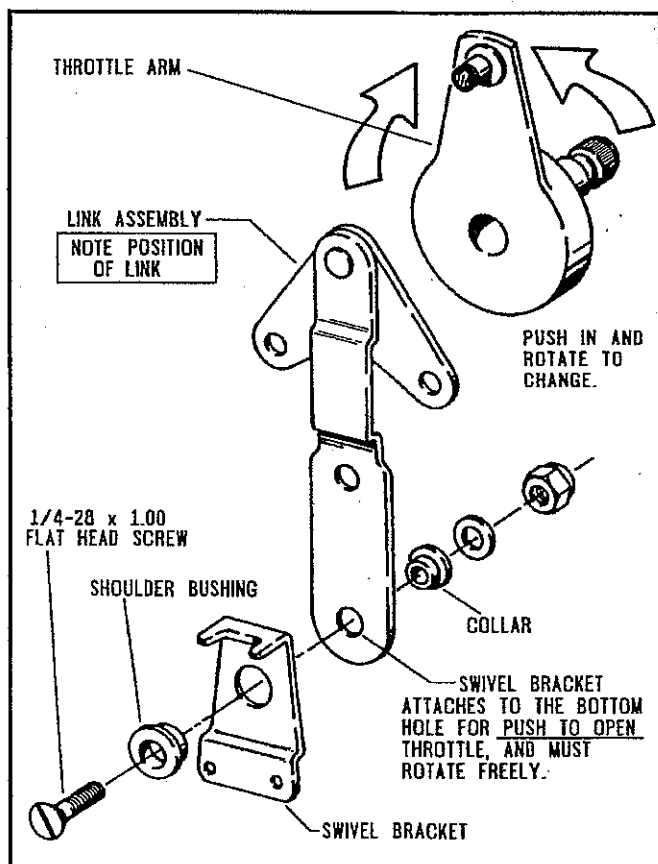

FIGURE 4 PUSH-TO-OPEN CONFIGURATION
The Throttle lever may be factory-set for "push" to open throttle. Refer to Figure 4. If you find it necessary to change to "pull" to open throttle, proceed as follows:
4. Remove the two (2) hex Head Screws at the Link Assembly, and remove the Link. make sure the Shift Arm does not change notch positions.
7. Attach the Swivel Bracket in the proper hole. See Figures 4 and 5 for proper location.